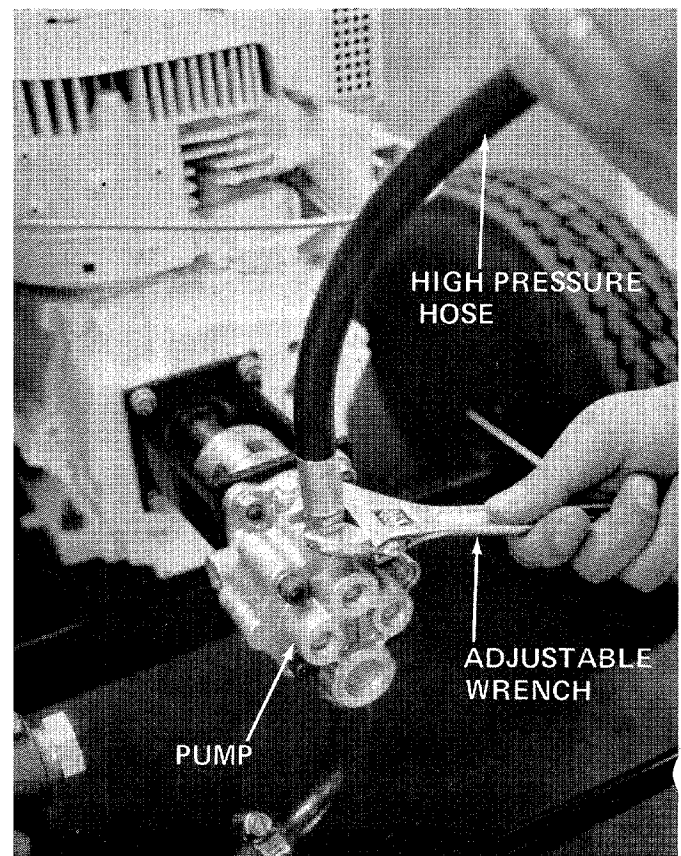

FIGURE 8
8. Assemble the high pressure hose to the pump. A 1-1/8" wrench or adjustable wrench is required. See figure 8.